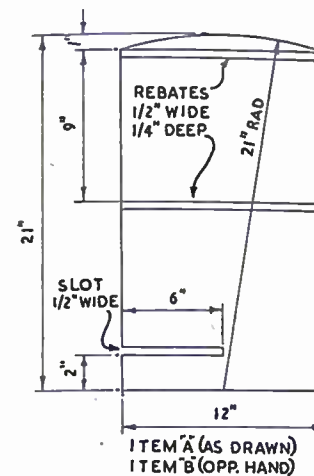

Fig. 1
Make the two uprights — items (A) and (B) — first. Mark their shapes as shown in Fig. 1 directly on to the 1/4 in. plywood but make sure that they are handed. That is, in item (B) the 1/4 in. wide slot will be cut in from the right-hand